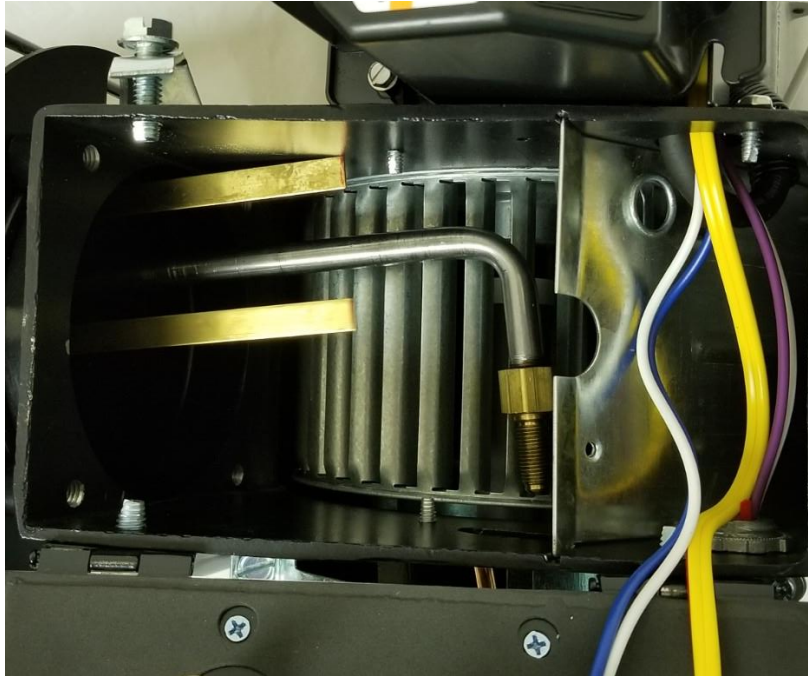

Figure 11 EH/EHASR Oil Gun Removal
5. Now grasp the rear of the oil gun assembly where the oil line fitting adapter exits through the housing and pull the oil gun to the right out of the housing slot and the slot plate cover (Figure 11).